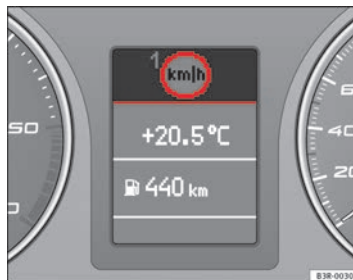

Fig. 56 Display: Speed warning function
exceeded by about 10 km/h. A warning symbol will also appear in the display ⇒ fig. 56.
The warning symbol  for speed limit warning 1 ⇒ page 82, fig. 56 will appear in the display if you exceed the pre-set speed. It goes out again if the speed is reduced below the set speed limit.
- Press the CHECK button and hold it down until the symbol ⇒ page 82, fig. 56 appears. ▶